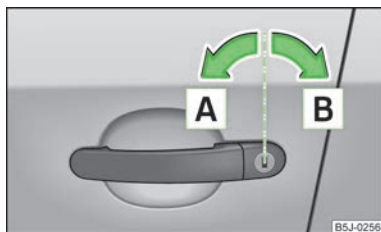

Fig. 12
- Turn the key in the locking cylinder of the driver's door in the direction of travel (unlocking position) **A** » Fig. 12.
- Turn the key in the locking cylinder of the driver's door in the opposite direction of travel (lock position) **B** » Fig. 12 on page 28.